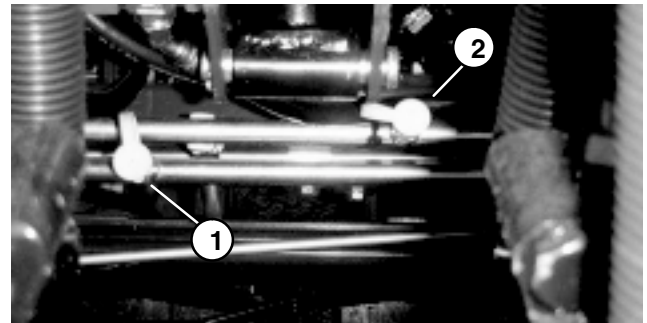

Figure 16
9. Disconnect test gauge and hose from the test port (Fig. 16).